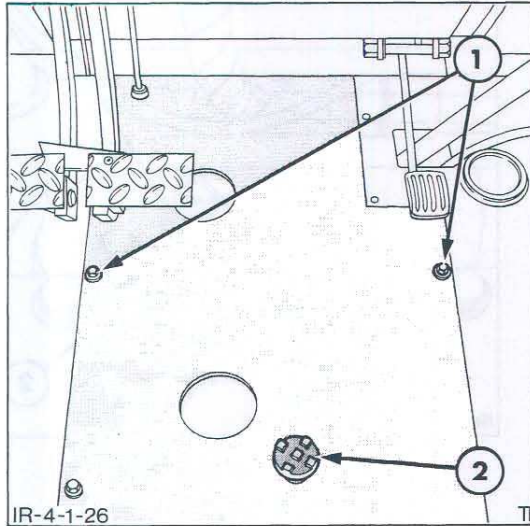

Figure 26
3. Remove the bolts securing the transmission access plate to the cab floor, Figure 26, and lift off the plate.